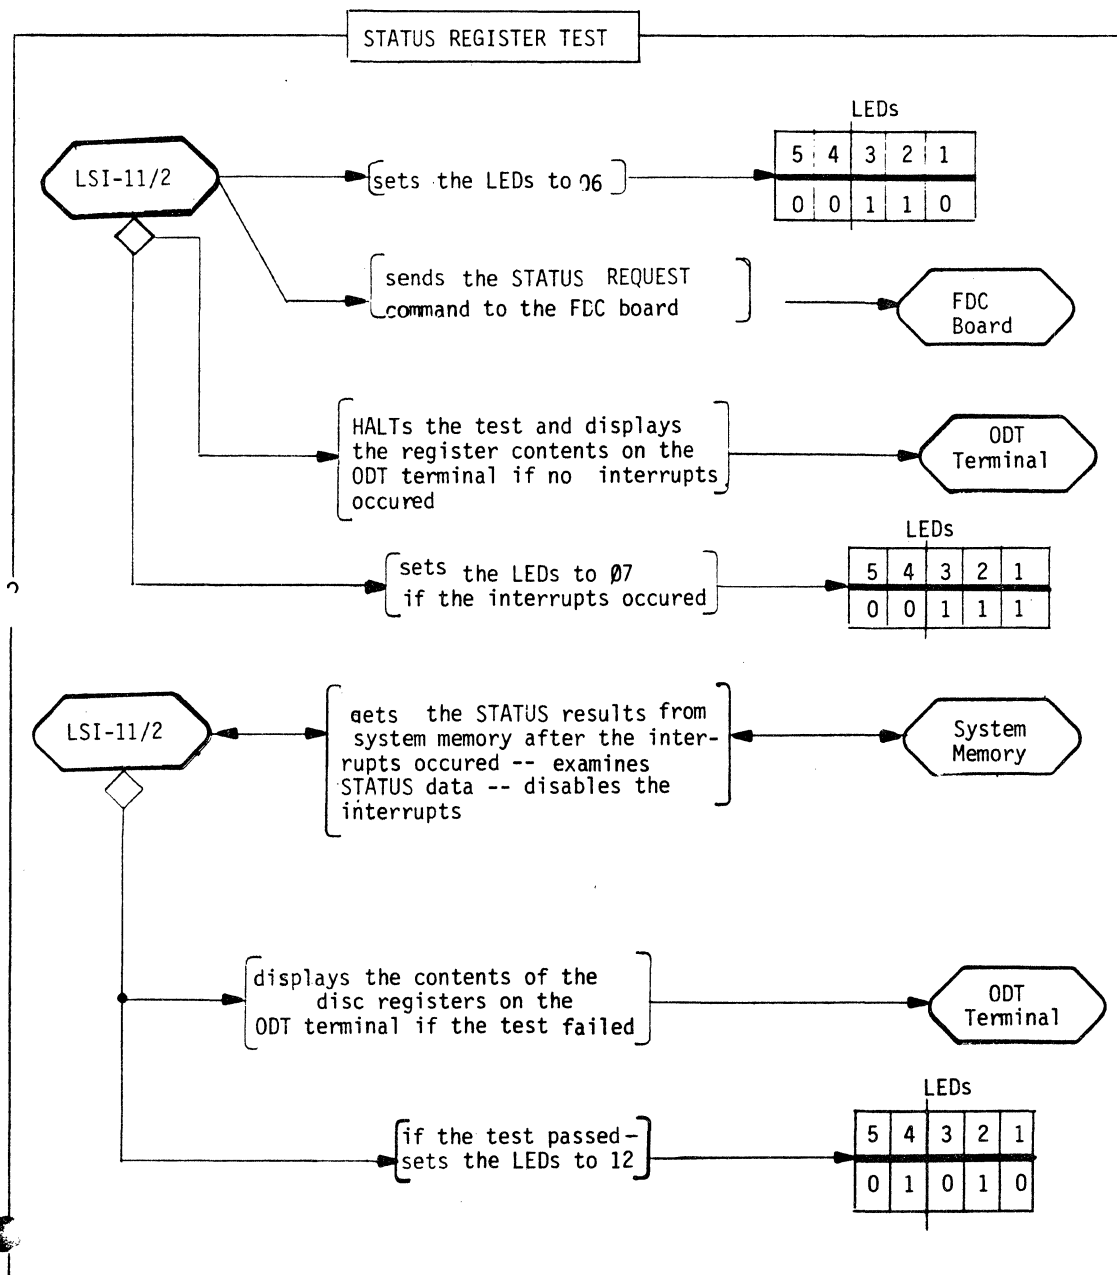

Fig. 3-20. Status register test.
2. STATUS REGISTER TEST (Fig. 3-20). The test sets the LEDs to 06, sends a STATUS REQUEST command to the FDC board and asks for the status. The test then waits for the correct interrupt response. If it did not receive the proper response, it HALTs the test, searches for an active ODT terminal, and it displays the contents of the flexible disc controller registers. If the test did receive the proper interrupt response, it continues and sets the LEDs to 07. The processor then receives the STATUS DATA from system memory, examines it, and disables the interrupts. If the test did not get the status result, it HALTs the test and displays the Flexible Disc Controller registers. If the test passed, the power-up sequence sets the LEDs to 12 and then attempts to boot the operating system.